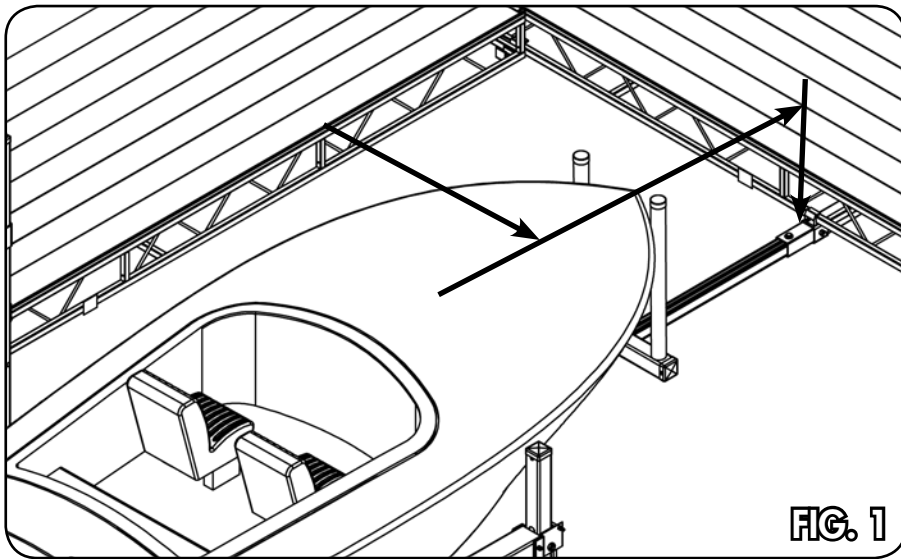

FIG. 1
1. ESTABLISH THE MOUNTING POSITION OF THE BOW STOP. MEASURE THE DISTANCE FROM THE CENTER OF THE BOW TO THE SIDE DOCK. TRANSFER THAT MEASUREMENT TO TO THE DOCK IN FRONT OF THE BOAT AND MARK WITH A MARKER OR GREASE PENCIL AS SHOWN IN **FIGURE 1**.